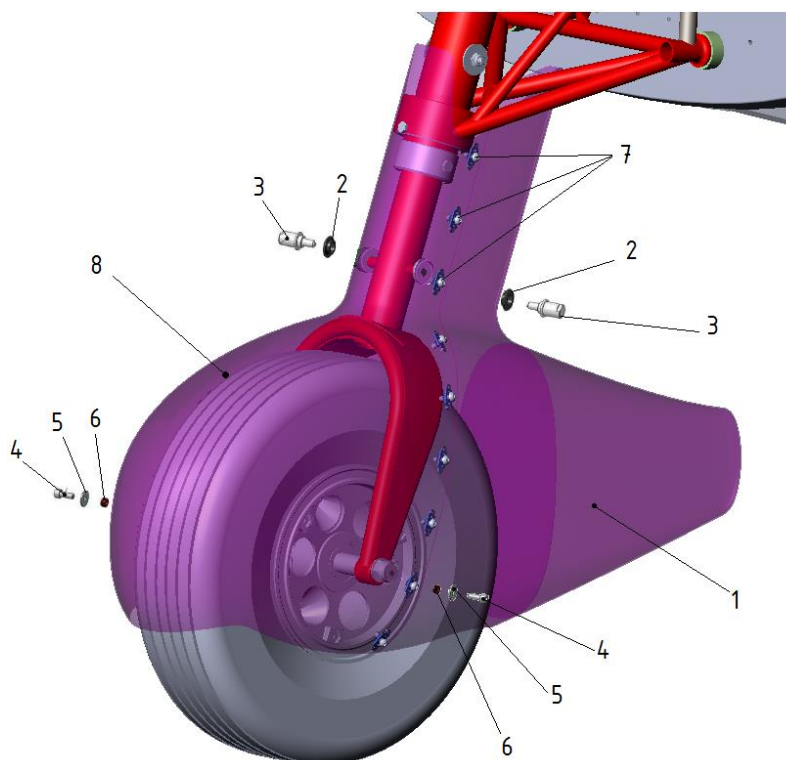

Fig. 32-20-4
B. Nose Wheel Fairing Removal (Fig. 32-20-4)
C. Nose Wheel Fairing Installation (Fig. 32-20-4)